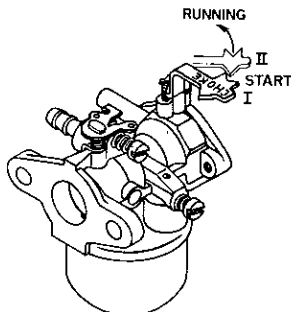

Fig. 2
2. a) when engine cold: Put choke lever in "START" position, I, Fig. 2.
- b) when engine warm: Leave choke lever in "RUNNING" position, Fig. 2.
5. After starting a cold engine, the choke lever should be moved first to the start position II (Fig. 2) and then to running position as soon as the engine is warmed up.